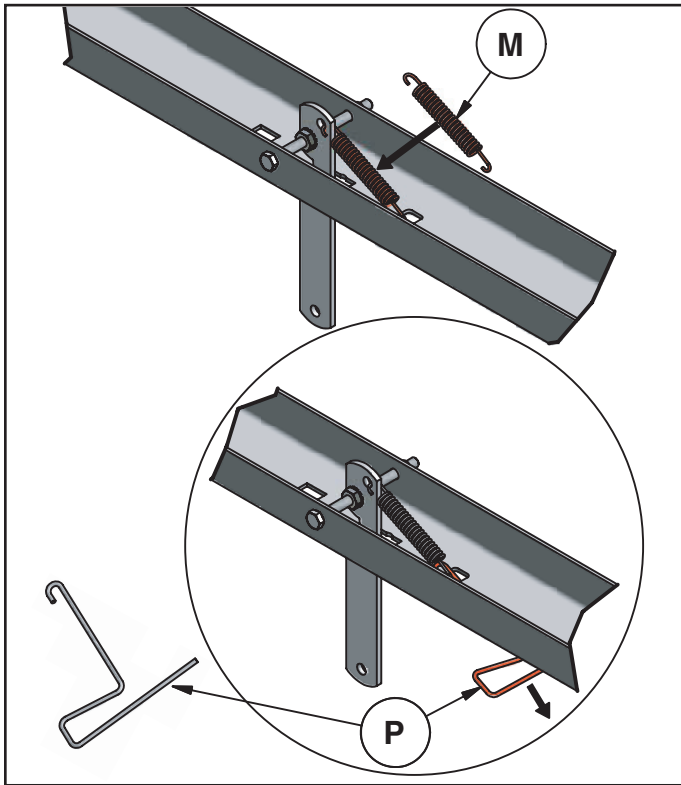

FIGURE 2
STEP 2: (SEE FIGURE 2)
- Hook the short end of the spring (M) into the hole in the latch lock lever. Use the spring puller tool (P) to hook the long end of the spring into the square hole in the tongue. The spring puller tool can be stored when finished.